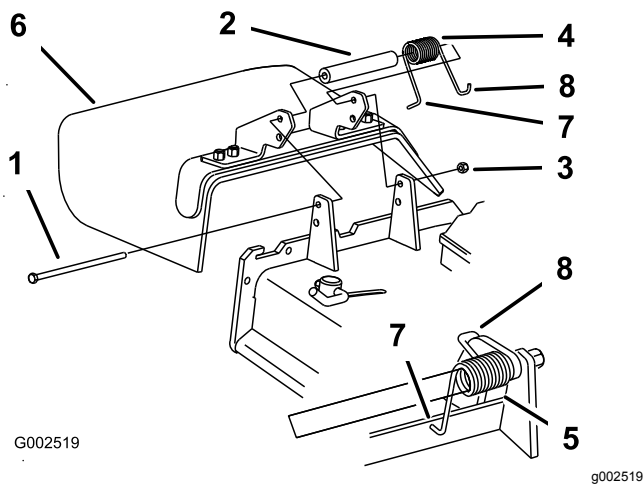

Figure 102
1. Remove the locknut, bolt, spring and spacer holding the deflector to the pivot brackets (Figure 102).
Note: Make sure that the L end of the spring is installed behind the deck edge before installing the bolt as shown in Figure 102
5. Place the J-hook end of the spring around the grass deflector (Figure 102).